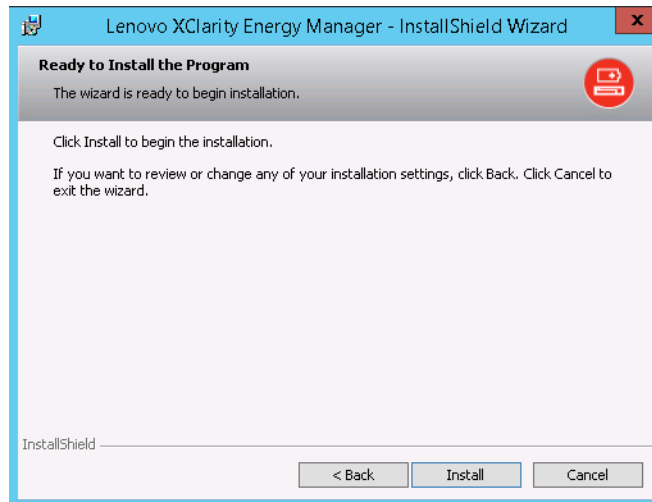

Figure 7-34 Begin installation
11. If changes to any settings are needed, click the **Back** button to make the changes now. Otherwise, to begin the installation, click **Install** as shown in Figure 7-34.